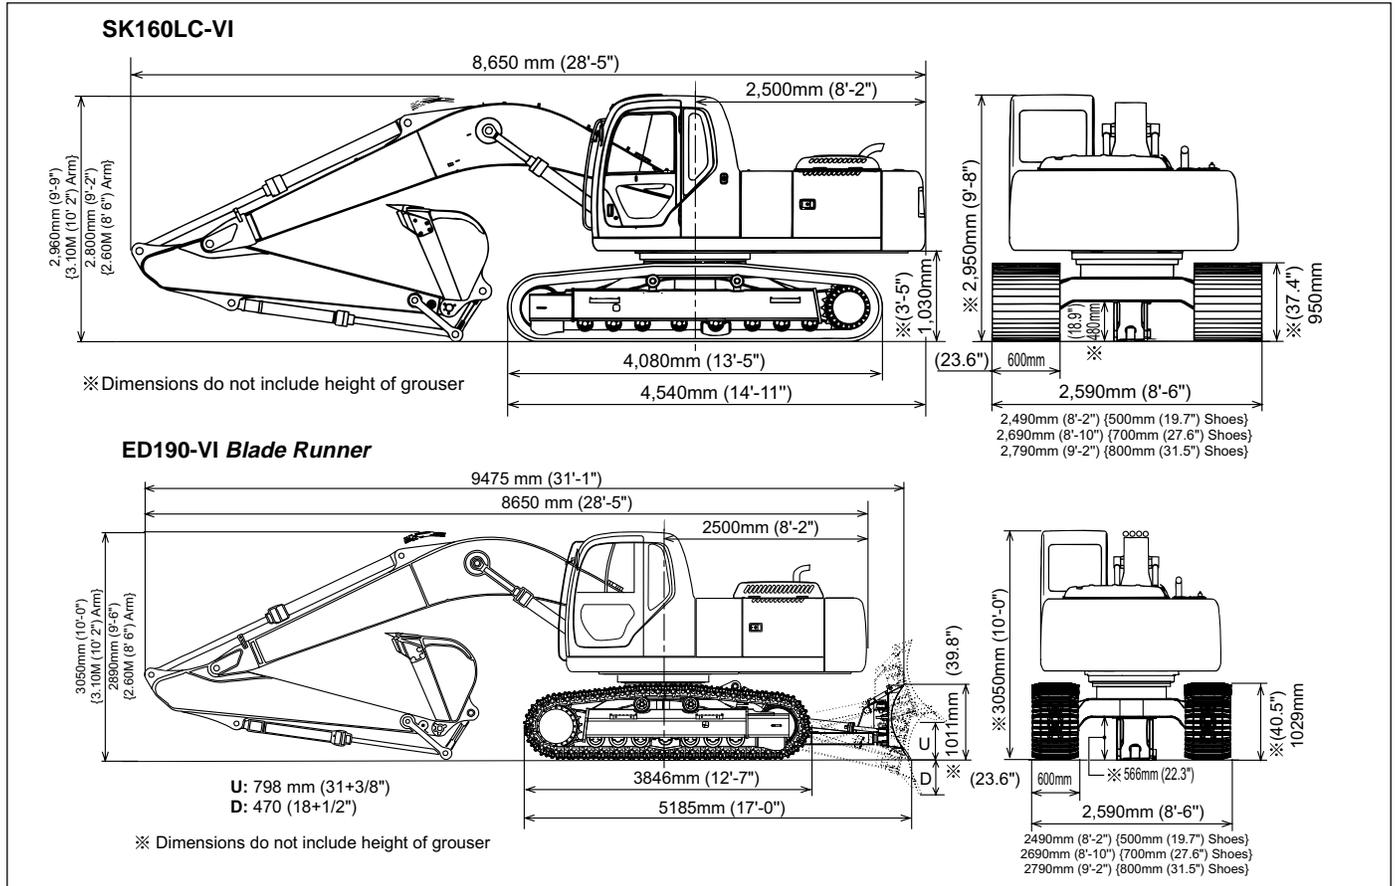

FIGURE 6.2A
A.MACHINE DIMENSIONS– Figure 6.2A	6-2
A.MACHINE DIMENSIONS– Figure 6.2A